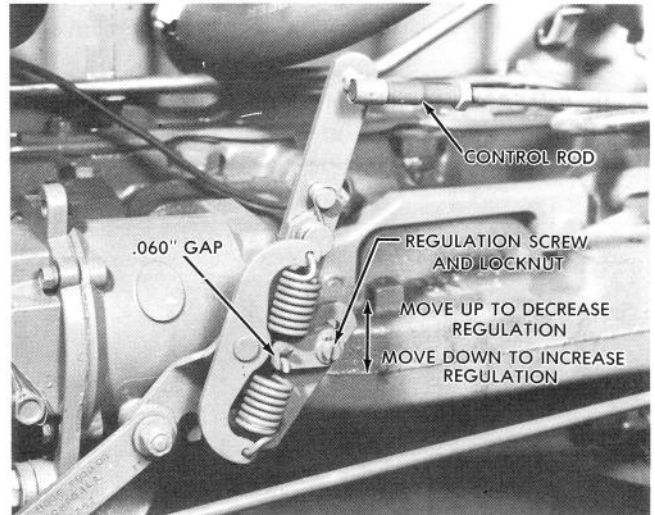

Figure 50
5. To stabilize the governor, eliminate hunting, or to increase the spread of RPM between no-load and full load, loosen the locknut on the regulation screw shown in Figure 50, turn the screw counterclockwise 1/8 turn, and tighten the locknut. Readjust hand throttle lever to obtain 1600 RPM. Repeat this procedure as required for proper engine operation.